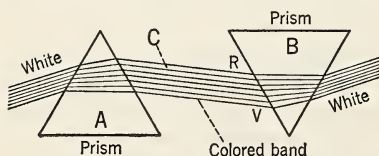

FIG. 531. A second prism may be used to recombine colors in the synthesis of light.
1. If we place a *second* prism, arranged as in Fig. 531, in the solar spectrum formed by a prism, the different colors will recombine to produce white light. Other colors may be compounded in the same manner.
tion 476. If we shove an opaque cardboard into the spectrum formed by the first prism at the point *C* of Fig. 531, we can cut off the *red* rays. The other six colors will combine as they pass through the second prism to form *green* light. By subtracting red light from white light, we produce green light. It appears safe to guess that *red light and green light will combine to produce white light*, and it can be shown by using the rotating disc with the two colors that our guess is correct. *Any two colors that unite to form white light are said to be complementary.*